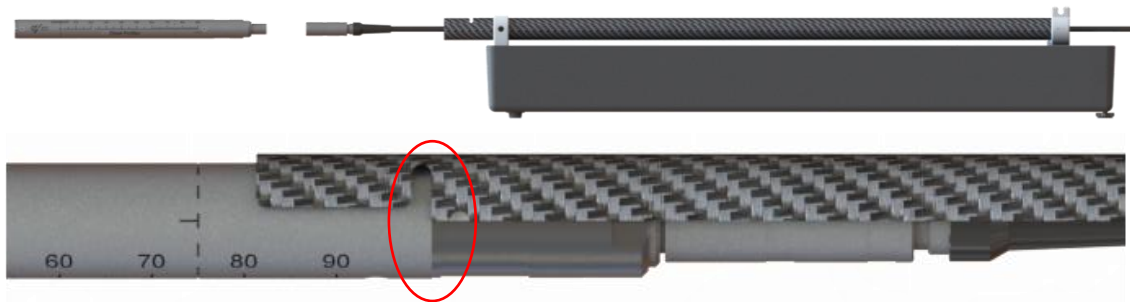

Figure 20. Mounting the RTI CT Dose Profiler
1. Insert CTDP cable with the LEMO connection first through the pipe from the back, note direction of the pipe according to Figure 20.
3. Insert the CTDP into the pipe, note mounting depth of the CTDP according to Figure 20.